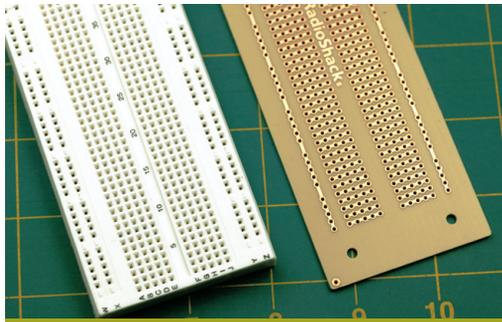

Fig. 1: Breadboard (left); upturned PC board.
Figure 1 (on page 10) shows a basic breadboard. You insert chips so that their legs straddle the central groove, and you add other components on either side. Figure 1 also shows the bottom of a printed circuit (PC) board that has the same pattern